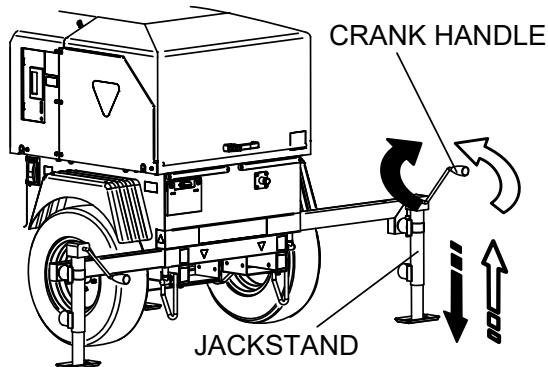

Figure 9. Lowering the Jackstands
5. After extending all outriggers, place all trailer jack stands into working position. Turn the crank handle on the jack stand clockwise to lower it and level the light tower (Figure 9).